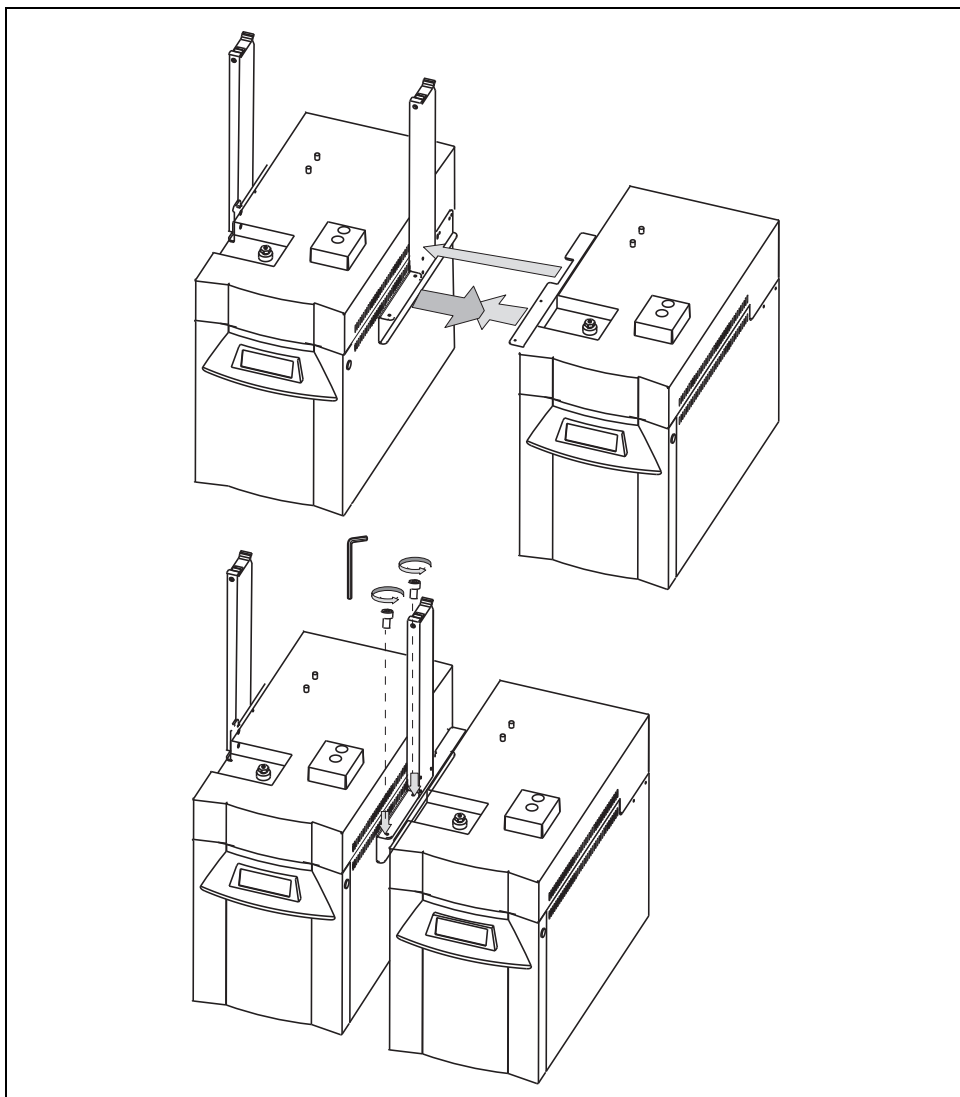

Figure 4-15. Agilent 6850 GCs Placing
7. Move the second GC beside the first one. Align the right sampler support of the first GC and the spacer plate of the second GC as shown in Figure 4-15, having care to fit the corresponding fixing holes.